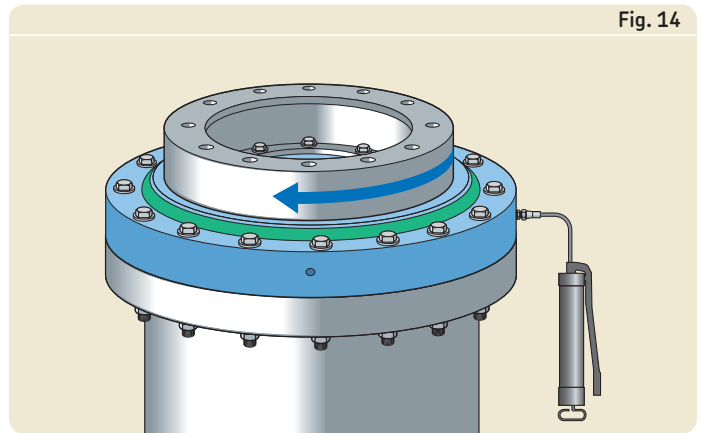

Fig. 14
- 17 Supply grease to the raceway via the grease fittings provided in one of the bearing rings (**fig. 14**). If applicable, rotate the bearing during the greasing operation. If a centralized lubricating system will be used, connect the lubricating tubes to the bearing.